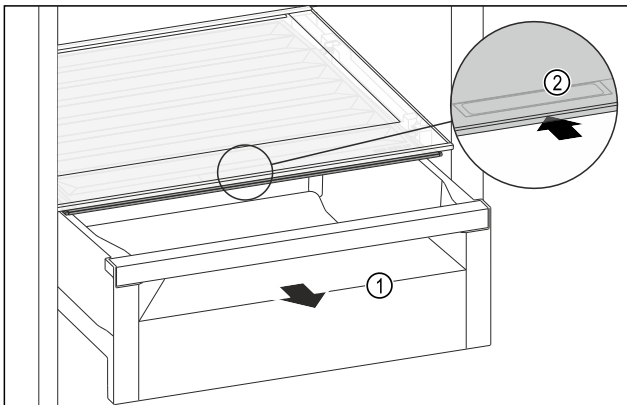

Fig. 105
- ▶ Pull out the drawer Fig. 105 (1).
- ▶ Grasp the recessed grip Fig. 105 (2) on the compartment lid and push the compartment lid backwards at the same time.